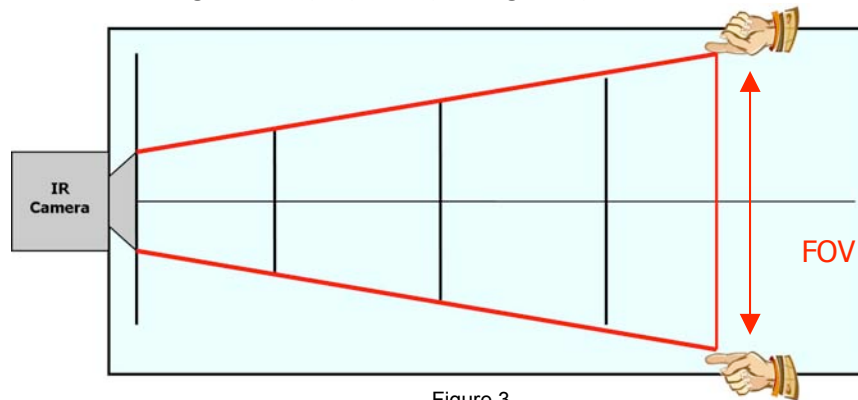

Figure 3.
4. Move one heat source from the center of the FOV, to the left, until it appears just inside the edge of the left-hand (LH) side of the imager display. Mark the paper at this point. Repeat the same procedure for the right-hand (RH) side. (See Figure 3)